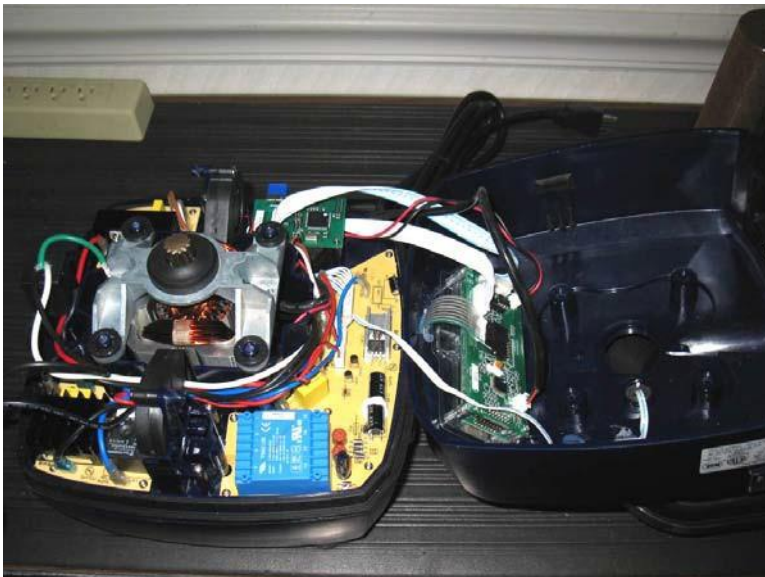

Figure 1. Unit with circuit breaker/on off switch leads disconnected and upper housing positioned to the front of the machine.
- Disconnect the two or three leads to the circuit breaker/on off switch. Position the upper housing to the front of the machine. (See Fig. 1)